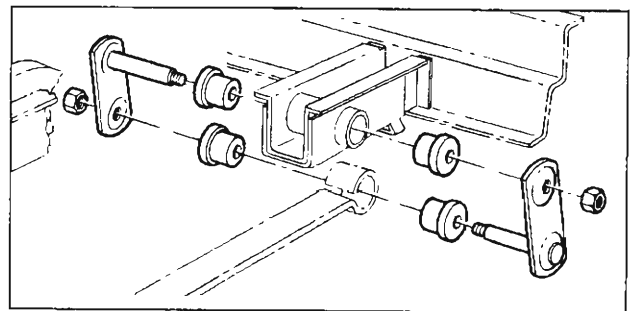

Fig. 13—Rear Spring Shackle Exploded View—All Except Station Wagon
- a. All except Station Wagons (fig. 13).